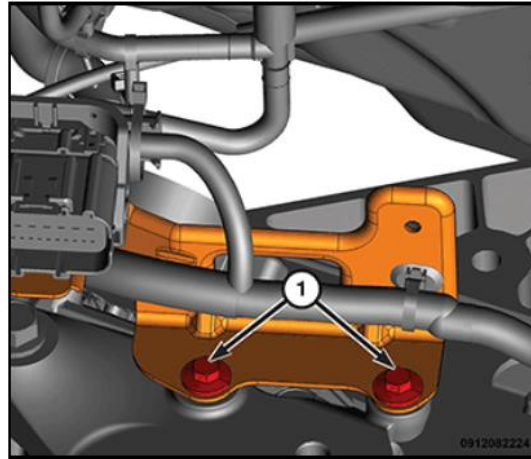

Fig 2. Harness Bracket
5. If necessary for access, remove the bolts (Fig 2. Labelled 1) and wire harness bracket from the left transmission mount bracket.